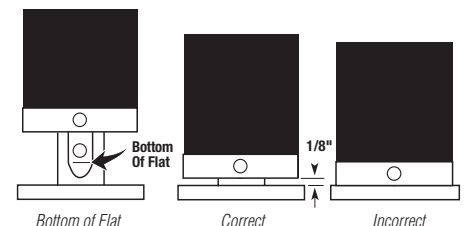

Figure 32
Step 4: Remove set screws on coupler. Coat set screw threads with thread sealant. Reinstall coupling to pump cartridge with set screw facing flat side of shaft. Tighten screw so coupler slides on shaft but stops at bottom of flat. Tighten until screw head is flush with coupler. Coupler should be approximately 1/8" off trap surface (**Figure 32**).